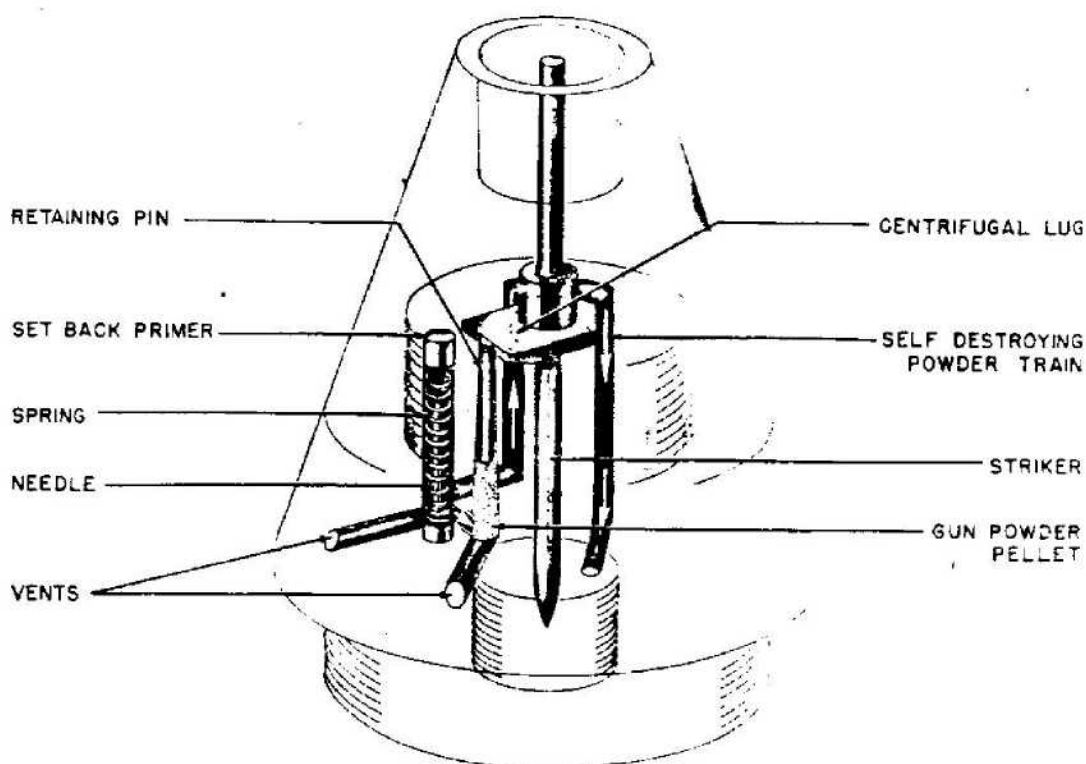

Figure 565—3.7-cm Kopfzunder Zerl. Pv.
**EMPLOYMENT:** Mechanical Nose Fuze with self-destroying arrangement for 3.7 A. A. gun H. E. shells. (See fig. 565.)